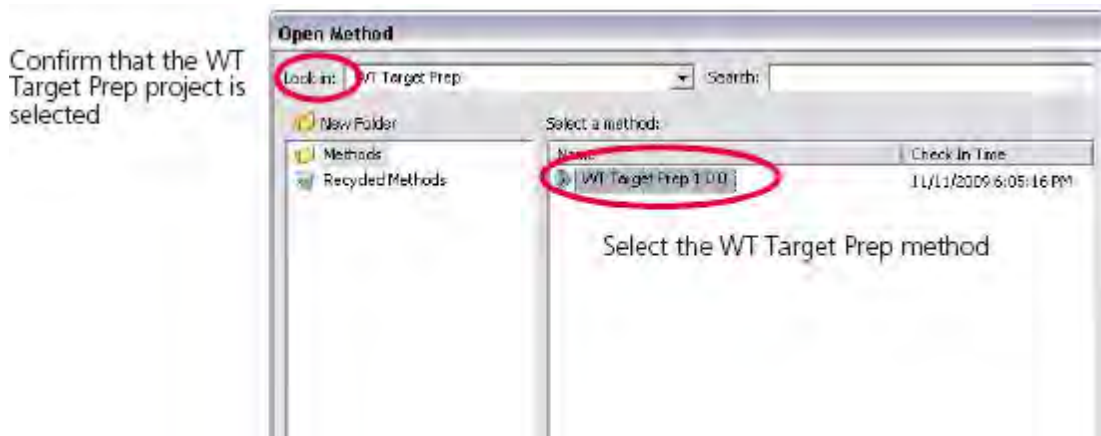

Figure 14 Open Method dialog box.
- a. Click **Open** . Alternately, select **File** ► **Open** from the menu bar. The **Open Method** dialog box appears (Figure 14).